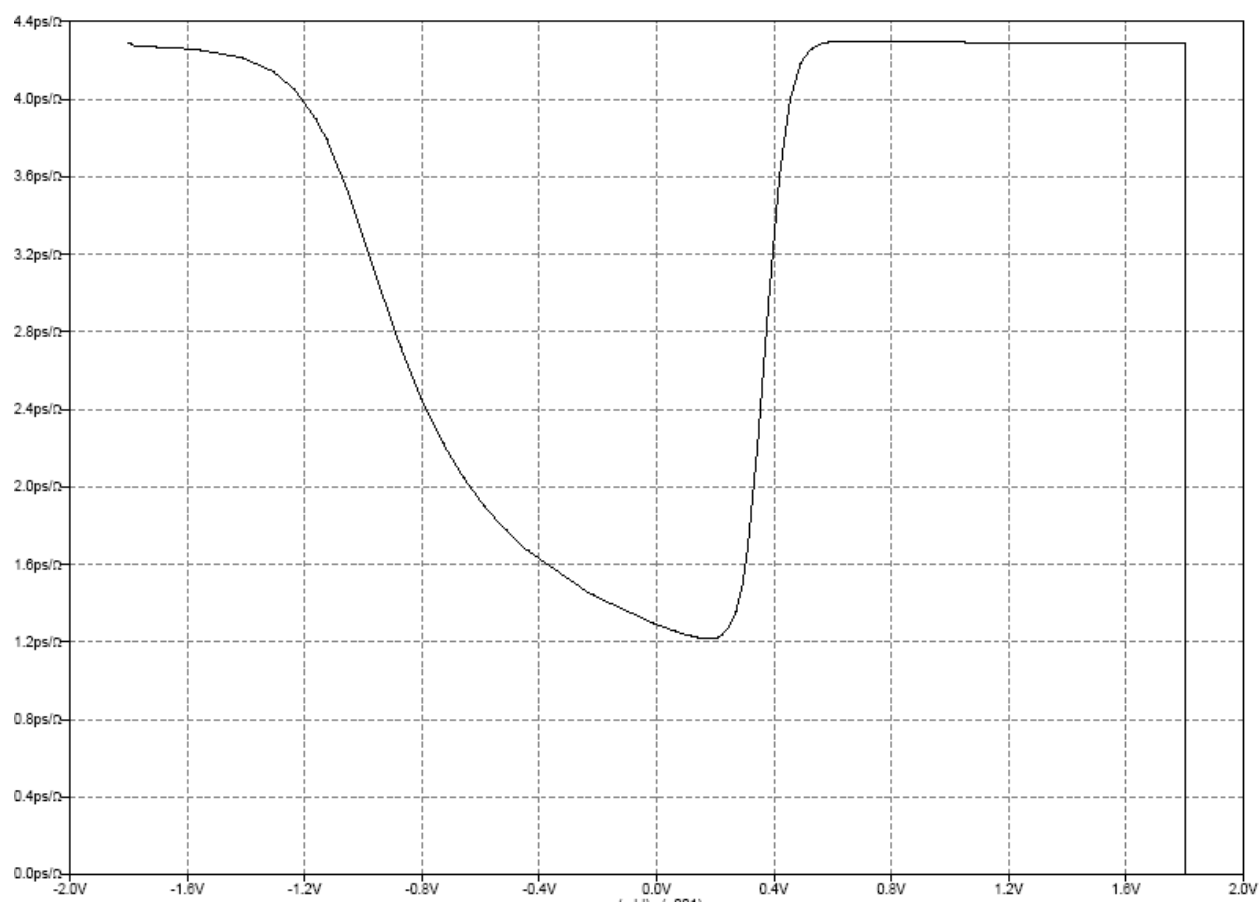

Fig.2 – Regular NMOS varactor characteristics C_{GS} (pF) vs V_{GS} (volts), size: $W=50u$, $L=10u$
- b. You can form the varactor by using a regular NMOS transistor. You tie both the drain and source together to form one terminal of the varactor ; the gate is the other terminal. You can tie the body of the NMOS varactor to the drain/source terminals (we are assuming that the varactor is available on a separate substrate). The characteristics for a varactor of size $W=50\mu$, $L=10\mu$ is shown in Fig. 2 (C_{GS} vs V_{GS}). The C_{GS} is in pF and V_{GS} in volts. Remember that the varactor capacitance depends on the area ($W*L$) of the transistor.